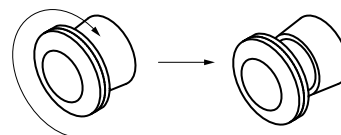

Fig. 5.2 Releasing E-STOP button.
3. Make sure that the E-STOP button is released. If not, twist it clockwise up to the stop and release (fig. 5.2).